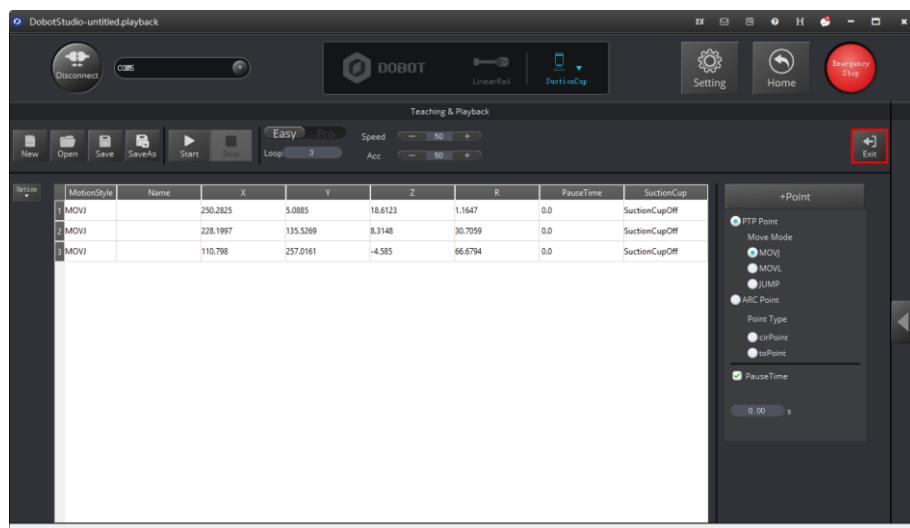

Figure 2.26 Click Exit
7. Click to exit the **Teaching & Playback** page, as shown in Figure 2.26.